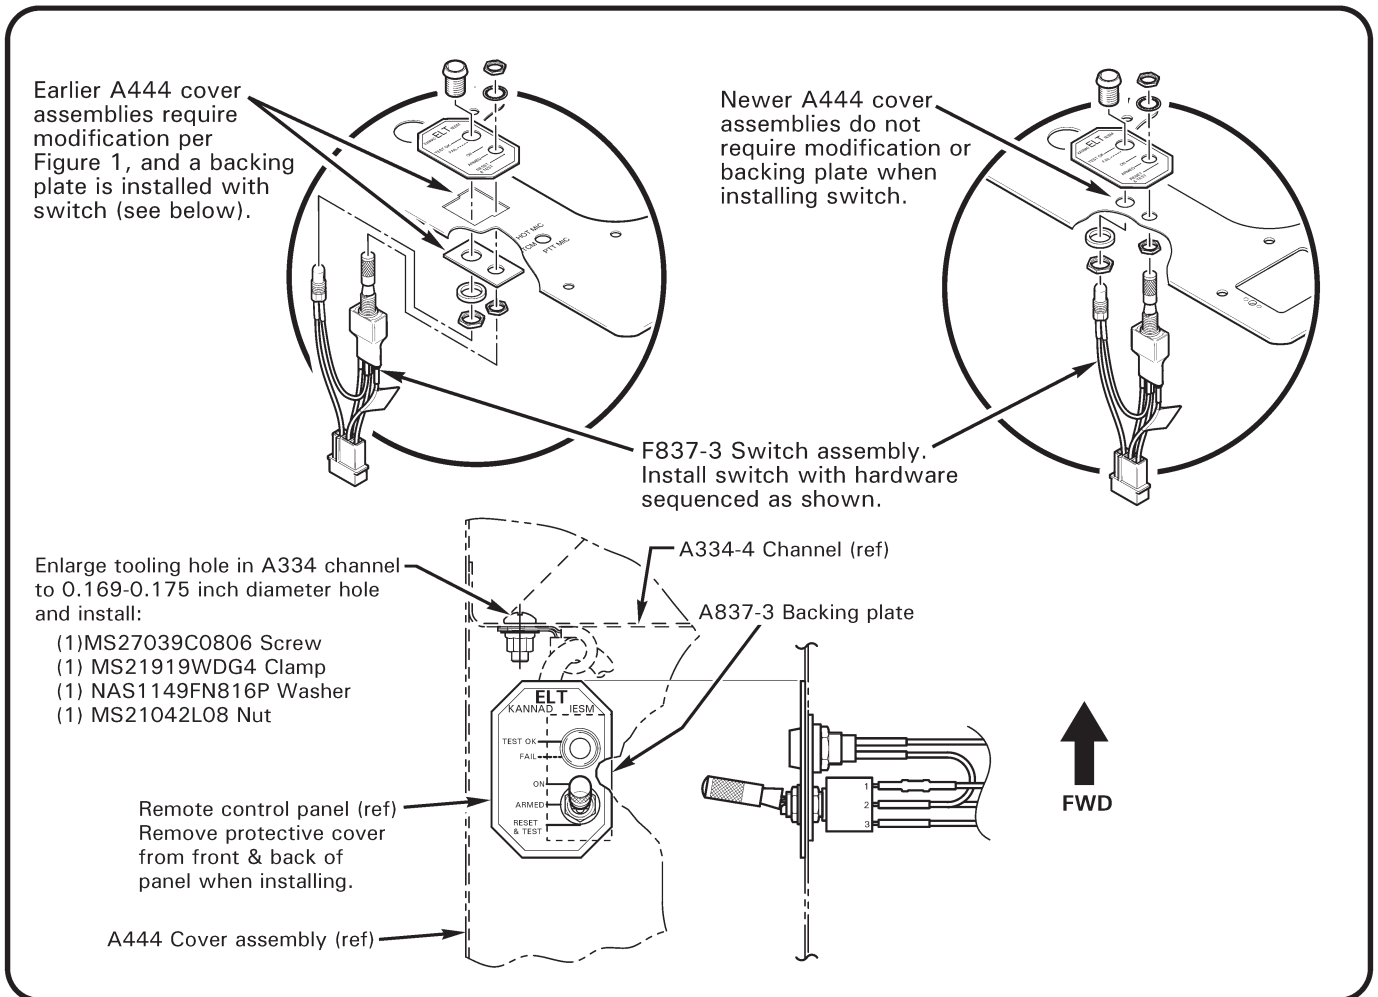

FIGURE 2
6. Install F837-3 remote switch assembly into A444 cover with “RESET & TEST” position of switch AFT and secure with supplied hardware per Figure 2. Verify that momentary position of switch coincides with “RESET & TEST” position. Reinstall post light. Unmask cyclic box area.
12. Refer to Figure 2. Connect shielded wire forward connector to F837-3 remote switch. Secure shielded wire to A338-4 channel on cyclic box with MS21919WDG4 clamp. Route and secure -692 wire forward along main wire harness and connect it to ground stud at center of lateral bulkhead under floor.